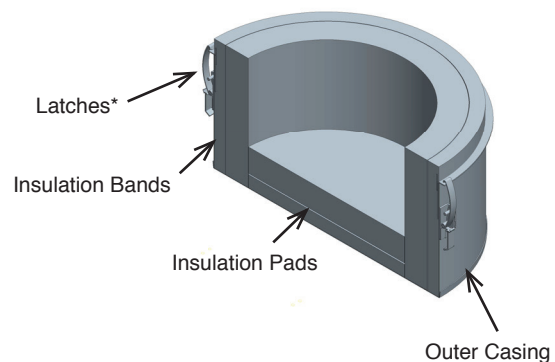

Figure 92- No-Tool Tee Cap Installation Step 3-4
- 4- Then add the insulation Pads at the bottom of the casing, in the middle of the insulation wrap. See Figure 92.